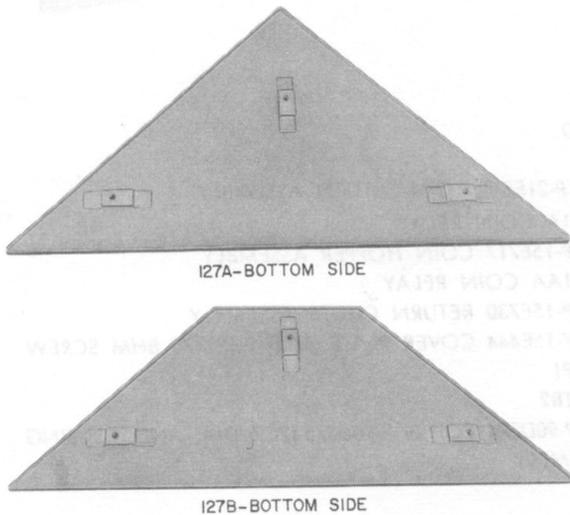

Fig. 7 — 127A and 127B Covers
- 127A or 127B cover† (Fig. 7)